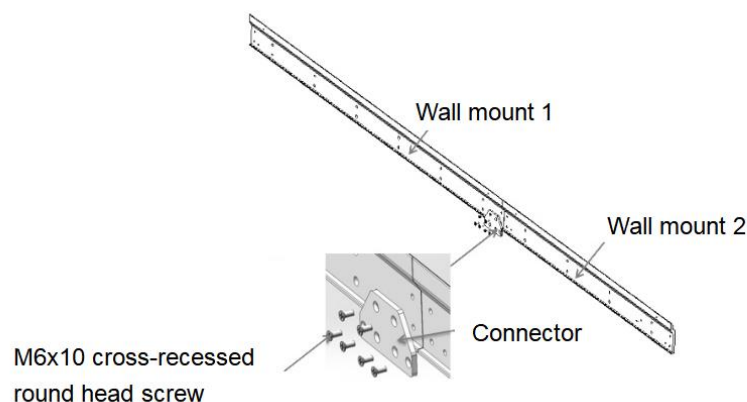

Figure 5
7. Connect Upper Hanging Bar 1 to Upper Hanging Bar 2 using Connector (see Figure 5). Fit Hanging Bar 1 end to end with Hanging Bar 2 and use 6 M5x16 countersunk screws to preassemble the Hanging Bar. Do this for the Upper Hanging Bar and the Lower Hanging Bar
8. Using the preassembled Upper and Lower Hanging Bars and a level gauge, determine the Penetration Points (punching positions) and mark the spots. Figure 5 shows the spacing and locations of the Penetration Points.